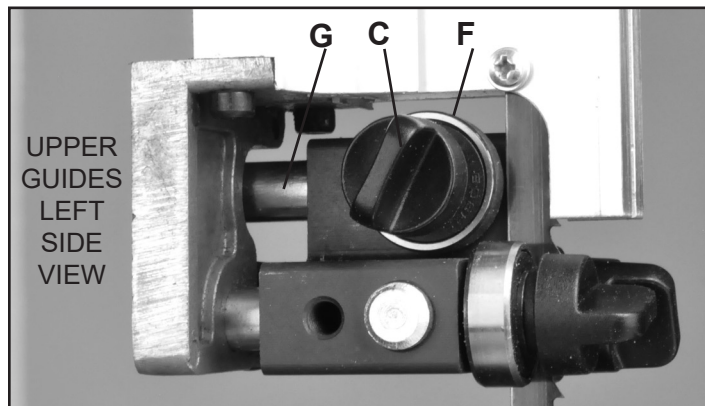

FIGURE 24
4. Adjust the rear bearing guide (FIG. 24, F) to be just clear of the back of the saw blade. Release the guide's Clamp Handle (#151, C) and move the rear guide towards the blade by pushing the end of the Rear Guide Shaft (#132, G). Tighten the handle when done. FIG. 24.